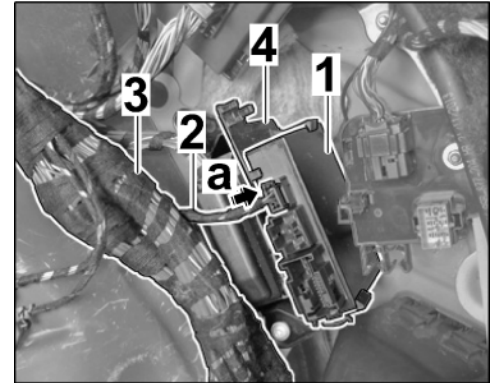

Figure 5
2.2.1 Clip trailer hitch control unit into bracket. ⇒ *Figure 5*
2.2.3 Connect plug connection for trailer hitch preparation to the control unit. ⇒ *Figure 5 -a-*